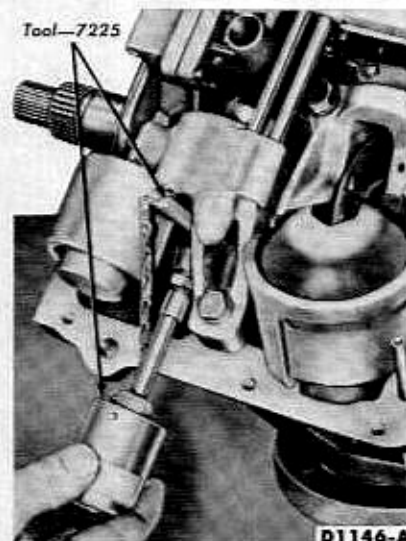

FIG. 7—Front Band Adjustment
4. Pull the adjusting screw end of the actuating lever away from the servo body, and insert the adjusting tool gauge block (Fig. 7) between the servo piston stem and the adjusting